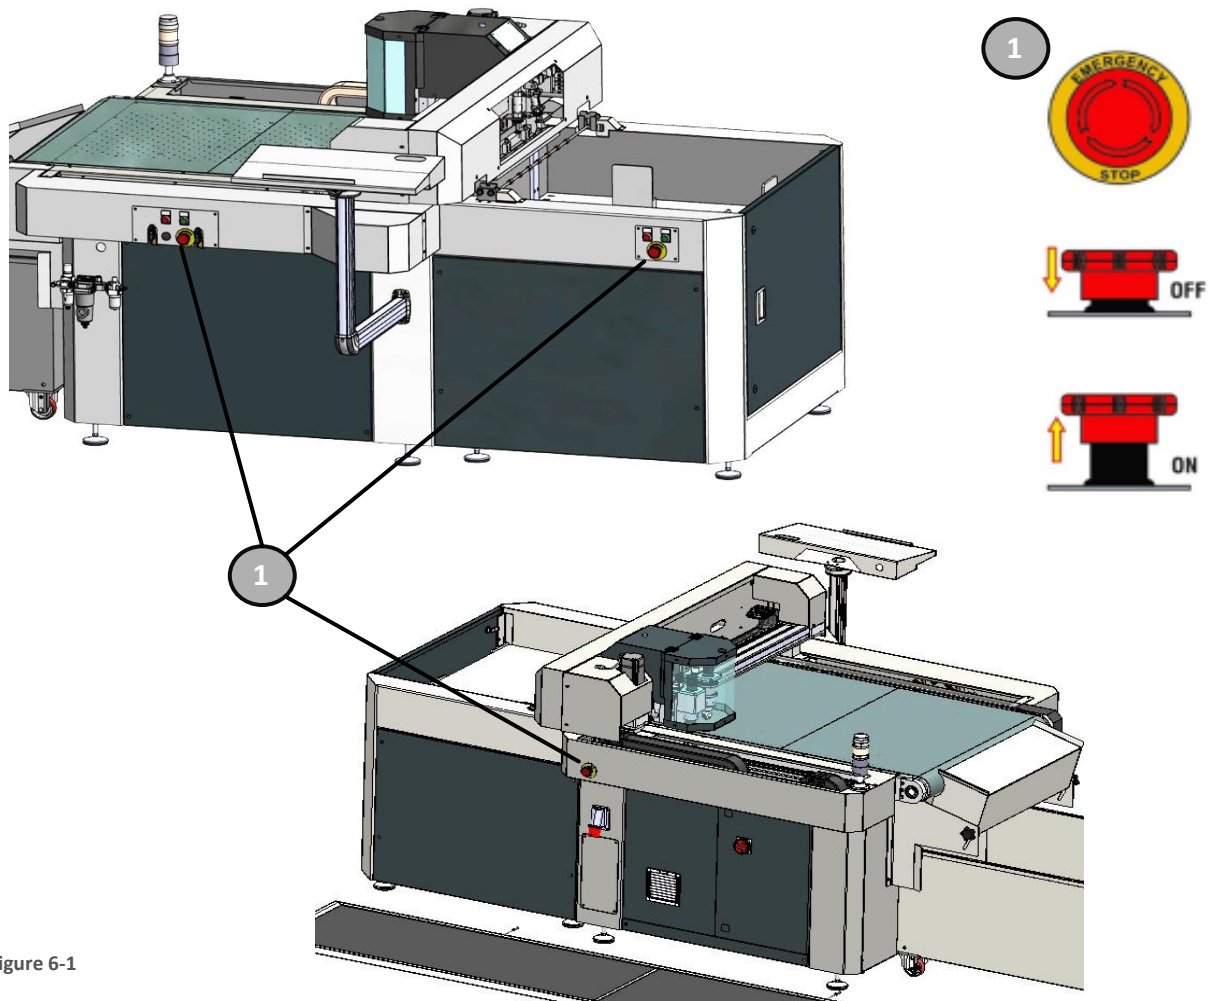

Figure 6-1
Note: If the button does not light up, check if any of the emergency buttons - Figure 6-1 - were pressed down, if so disarm them (see par. 6.1) and repeat the pressure of the Machine Power key.
- In case of danger, it will be sufficient to press the emergency button to instantly block and cut power off to the machine. Figure 6-1.